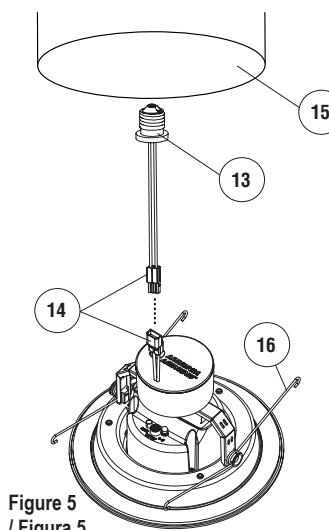
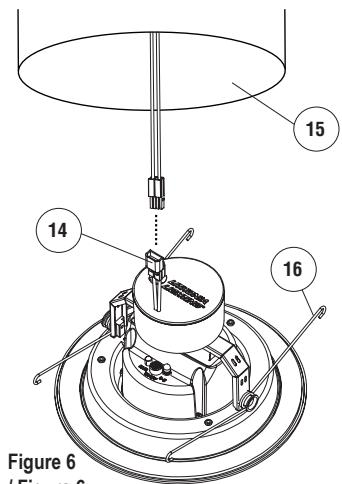

Figure 5 / Figura 5
Figure 6 / Figura 6
- A. E26 Socket Adapter (13) (Figure 5):
1. Screw Adapter (13) into the base socket inside Housing (15).
2. Plug Orange Connector (14) of Adapter (13) into the fixture's mating Orange Connector (14). Or,
B. LED Connector (Figure 6):
1. Plug Orange Connector (14) from the fixture into the mating LED connector inside Housing (15).